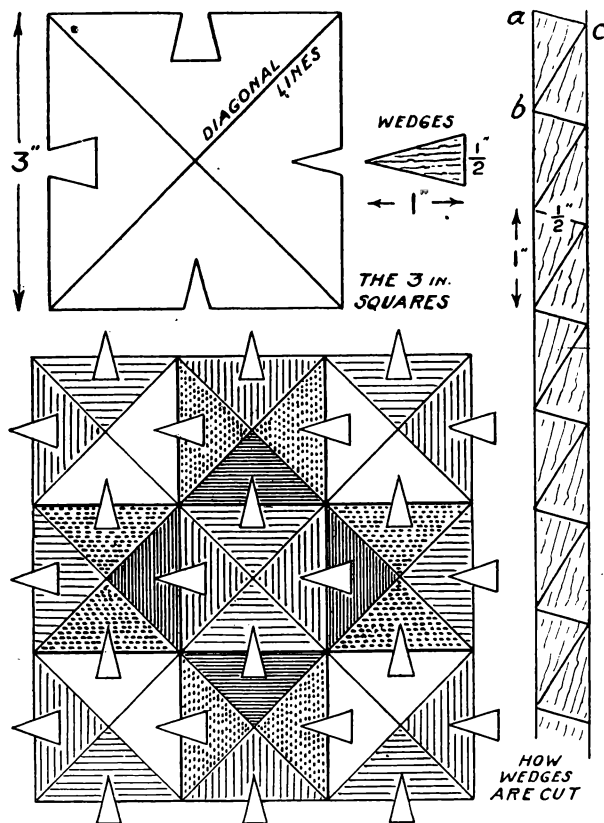

FIG. 2. WORKING DETAILS AND FINISHED PUZZLE.
THIS American puzzle may be new to most readers. It consists of nine squares of, say, 3 ins. by 3 ins., each divided by two diagonal lines into four triangles which are stained or painted different colours. Each triangle is notched as shown in the enlarged diagram (Fig. 2), the adjacent notches (when the puzzle is assembled) engaging wedge-shaped pieces about an inch long and $\frac{1}{2}$ in. over base. The squares may be any size, but 3 ins. is suggested as convenient for handling. The completed large square is thus 9 ins. by 9 ins.
On a $9\frac{1}{2}$ ins. by $9\frac{1}{2}$ ins. board of $\frac{3}{8}$ in. hardwood or $\frac{1}{2}$ in. ply carefully set out the diagram as shown in Fig. 2, each square being 3 ins. Mark carefully and make sure that the lines are truly horizontal and vertical. Rule in the diagonal lines and also mark the positions of the wedge-shaped pieces. It is worth while to do this setting out carefully, as otherwise the wedges will not fit neatly.
The method of setting out is shown. Mark one edge out in inches as a b . From point b mark c (one inch) on the other edge and mark along in inches as before. By drawing lines across from a to c and b to c you have the wedges ready for cutting. Any later trimming to fit may be done with glasspaper. In Fig. 2 (principal diagram) all twelve outside wedges are shown complete. They may be left so, as if cut short flush with the edge the smaller V-shaped pieces might easily be lost. (375)